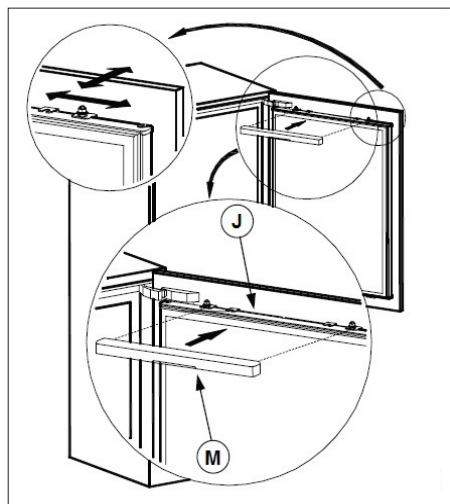

Fig. 16
24. Use the adjusting screws (I) to adjust the refrigerator door so the gap between the door and the cabinet is 1-2 mm (Fig. 16).
27. Attach the cover (M) to the holder (J), (Fig. 16).